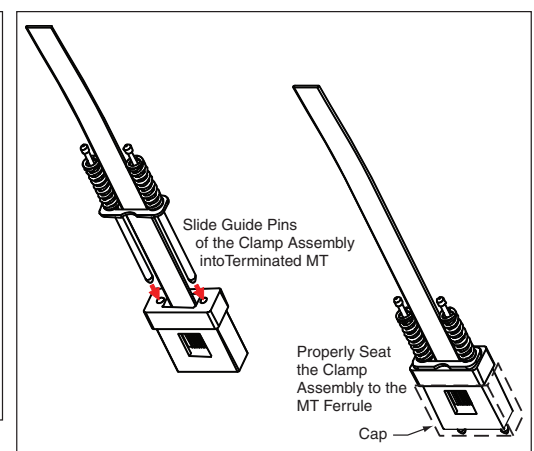

Figure 3
- a. Install protective cap - see Figure 3.